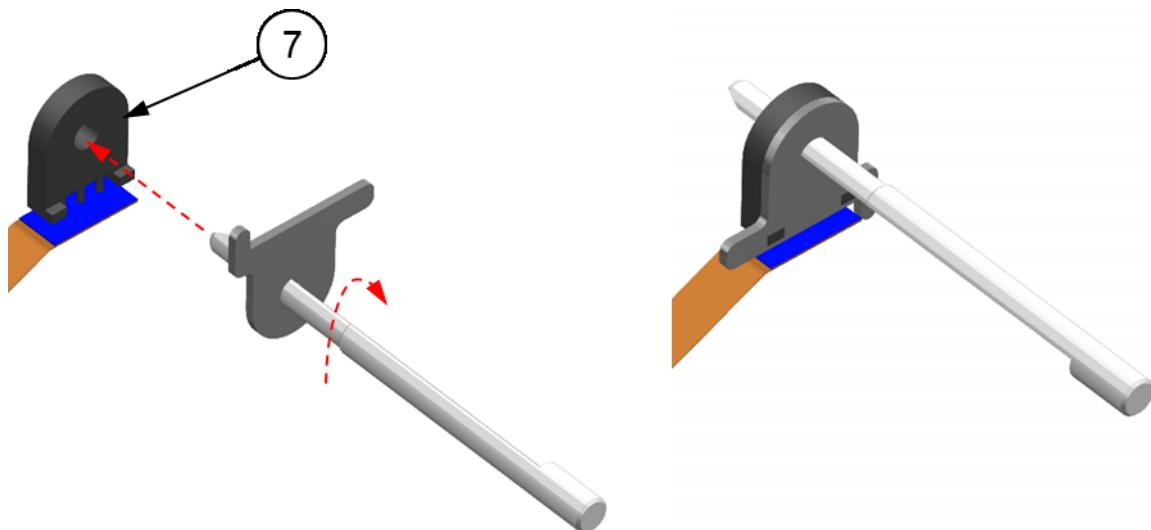

Fig. 55 Potentiometer adjusting
1. Using the **TA-49** potentiometer adjuster, set the **Potentiometer** (7) in the correct position as indicated on **Fig. 55**.